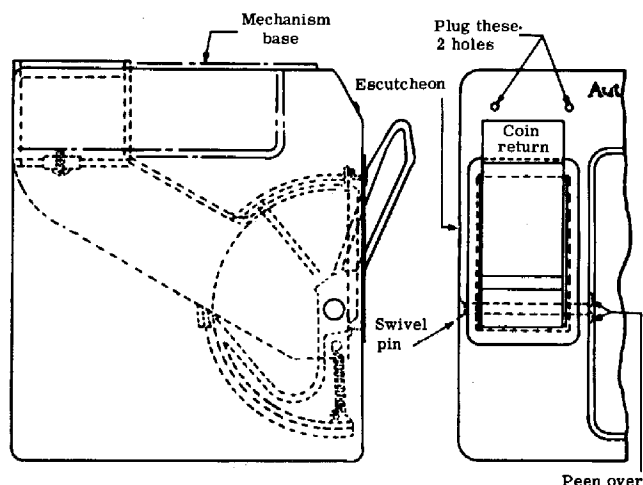

Figure 10.
- (6) On older paystations, plug two upper escutcheon holes with drive pins removed in step (8) of paragraph 2.01 (see Fig. 10).
- (11) Insert anti-stuffing device into coin-return chute (see Fig.10). Align holes of anti-stuffing device, coin-return chute, and lower housing so that swivel pin can be inserted.